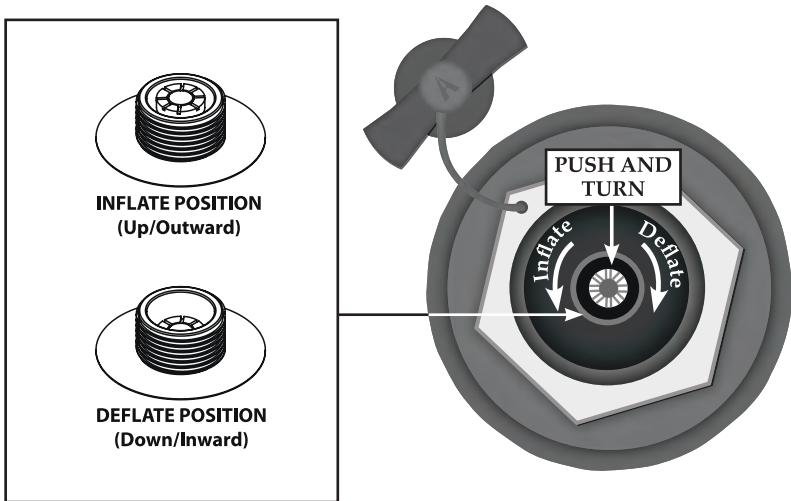

Figure 1. Inflate/ Deflate Spring Valve
1. Starting with Main Chamber 1, check to be sure that the valve plunger is UP or in the INFLATE position (See Figure 1 on previous page).
1. Moving to Main Chamber 2 on the inside of kayak, check to be sure that the valve plunger is UP or in the INFLATE position (See Figure 1) and inflate until firm to touch (**2.0 psi ONLY**).